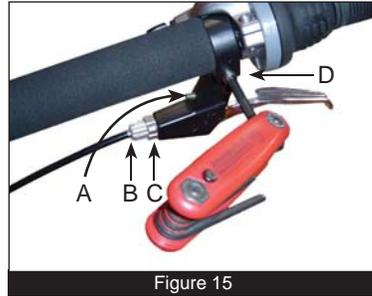

Figure 15
**Hand Reach:** You should be able to grasp brake levers quickly from a hand rest position on the handlebars. Rotate each brake lever until you can do so. Loosen the brake lever clamp bolt (D in Figure 15), with the 5-mm Allen wrench shown, and rotate the lever on the handlebars to a quickly reachable position. Tighten the clamp bolt to 44—60 inch/pounds.
**Finger Fit:** If the brake lever begins to apply braking force as soon as you depress it, adjust its “reach” with a 2-mm Allen wrench (A in Figure 15), until your fingers can safely and comfortably apply force to the brakes. The brake lever can be safely depressed up to about one inch from the handlebar. If the brake lever comes any closer the brake cable has stretched. Cable stretch reduces braking power and response, so remove this stretch.
Loosen cable slack adjuster locknut, (C in Figure 15) a few turns. Turn slack adjuster (B in Figure 15) counterclockwise until slack is removed. Tighten locknut (C in Figure 15) against the brake body. Repeat if the brake lever still comes more than an inch from the handlebars. Make this adjustment on all brake levers as necessary.